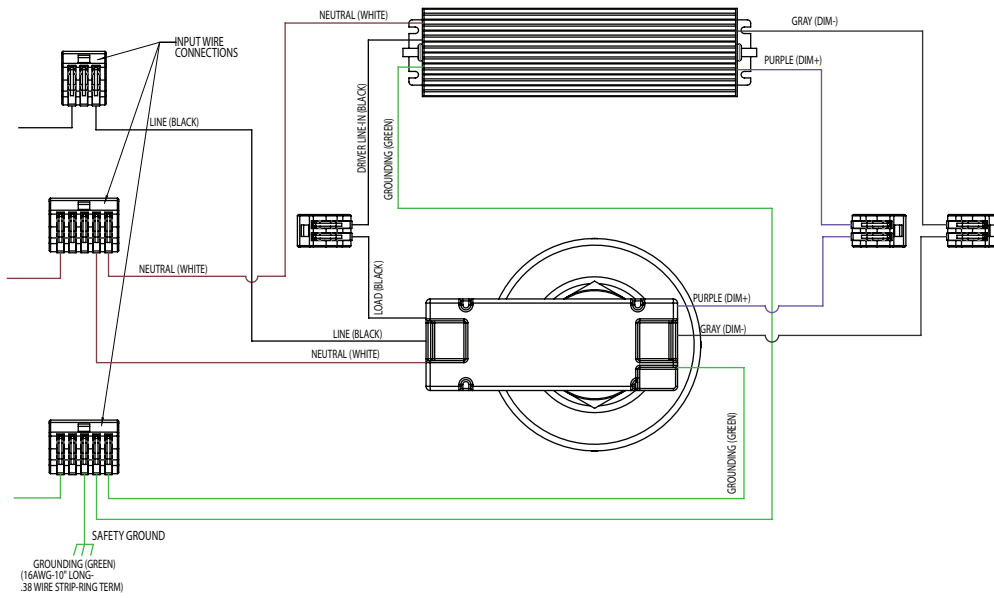

Figure 5
1. With the power shut off, use a No. 2 Pozidriv screwdriver to remove all six (6) retaining screws from the luminaire body.
3. If the luminaire contains the factory installed occupancy sensor, connect sensor wiring according to the wiring diagram in Figure 5. Otherwise, continue to the next step.